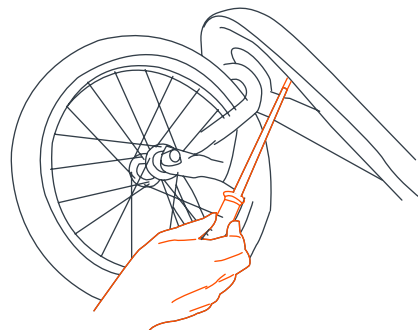

Fig. 5d
- Insert the 5 screws through the underside of the front frame assembly into the front fender's plastic tubes. Tighten the screws only until snug (Fig. 5d).